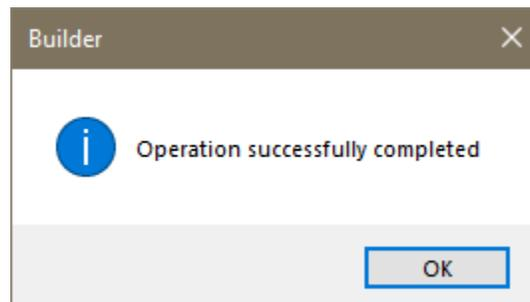

Figure 8-72
- When the check completes the program will prompt the user with the message in **FIGURE 8-72**.